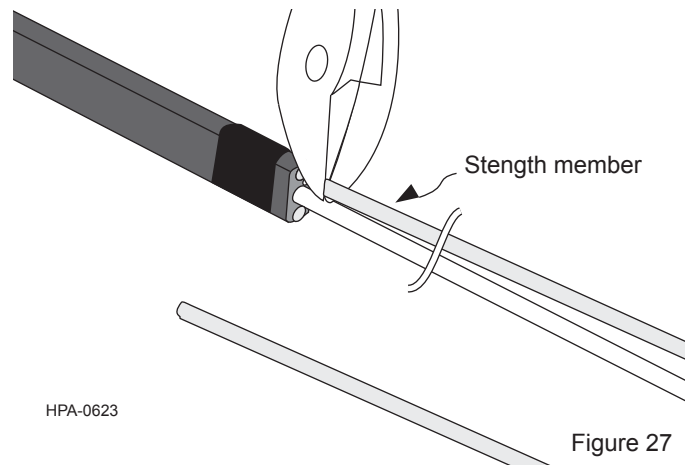

Figure 27
**Step 5:** Use scissors or side cutters to remove the split sections of the outer jacket and to cut the strength members as flush as possible to the cable jacket . Use care to avoid damaging the indoor component (Figure 27).